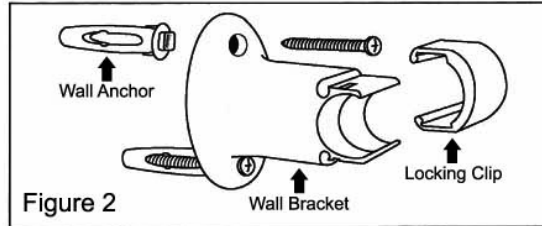

Figure 2
- Where a stud is conveniently located, you can just use the screws to attach the wall bracket. For the remaining wall brackets, use the wall anchors supplied to firmly anchor the screws into the dry wall (please note that the wall anchors may look different from those shown in figure 2).